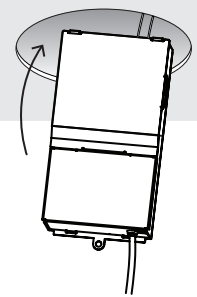

Figure 2
5. Insert hardwire box through the mounting hole. (Figure 2)
5. Insérez à travers le trou de montage. (Figure 2)